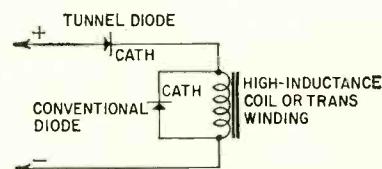

Fig. 3—Protective circuits use standard diode across high-inductance coils.
7. Protect the diode from surges. Protect the diode from destructive kickback voltages by installing a safety device (varistor, surge-limiting resistor or reverse-connected germanium, silicon or selenium diode) across any high-inductance coil in the circuit (Fig. 3). High kickback voltages produced by collapse of the magnetic field of a high-L coil can wreck a diode in a fraction of a second.
9. Don't exceed maximum rated power dissipation. The dc power input (P) to the diode is the product of the bias voltage and the resulting current:  $P = EI$ , where P is in watts, E in volts and I in amperes. If E is expressed in millivolts and I in milliamperes,  $P = .001EI$  milliwatts. Consult the manufacturer's data sheet for maximum permissible power dissipation at the desired operating temperature. Excessive dissipation can shift the diode operating point, upset operation of a circuit or destroy the diode.